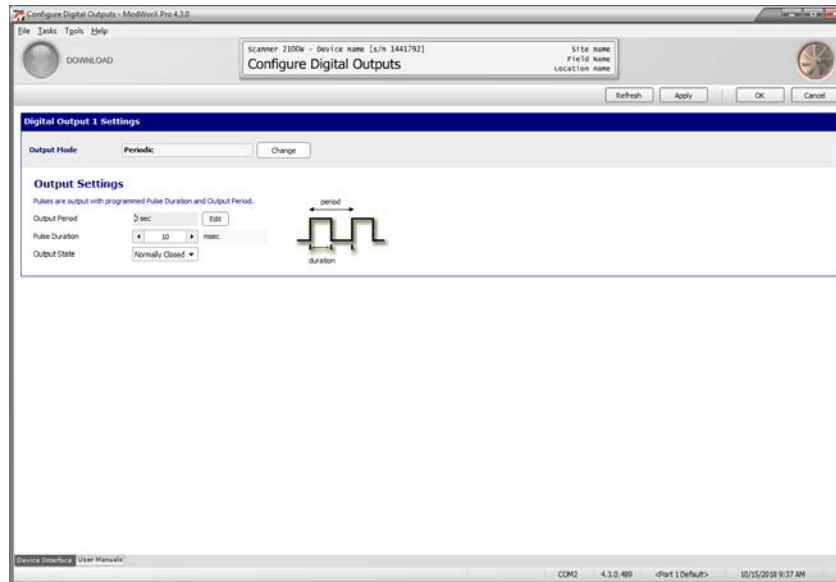

Figure 7.8
2. Click **OK** to save the setting and return to the Configure Digital Outputs screen (Figure 7.8, page 91).